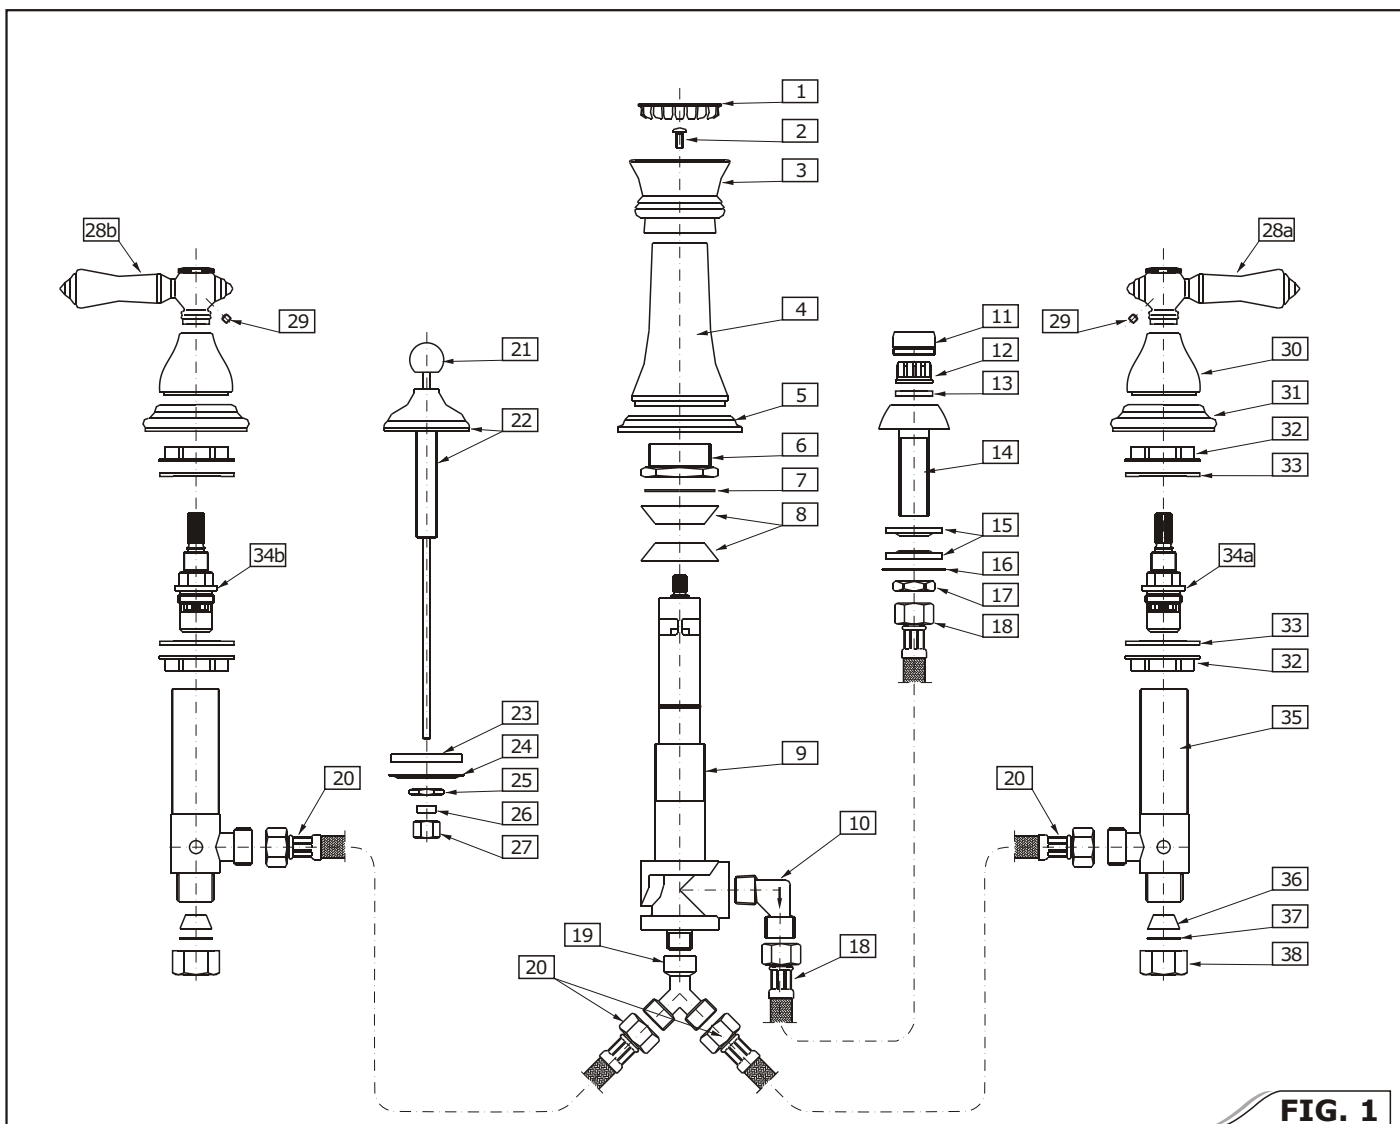

FIG. 1
- ➔ Spin the bottom valve mounting nuts (32) all the way down the valve and remove the top nut and washers. Insert valve (35) up through the hole in the deck, then drop on the washer (33) and the top mounting nut.
- ➔ Connect hose (20 fig.1) to the outlet connection of the valve. The other end of the hose should be connected to T-connection (19 fig.1) after spout installation.
- ➔ Haga girar las tuercas de montaje inferiores de la válvula (32) manteniendo la válvula abajo, luego quite la tuerca y las arandelas superiores. Inserte el válvula (35) por arriba a través del agujero en la cubierta, después ponga la arandela (33) y la tuerca de montaje superior.
- ➔ Conecte la manguera (20 fig.1) con la conexión del enchufe de la válvula. El otro extremo de la manguera se debe conectar con la conexión „T“ (19 fig.1) después de la instalación del grifo.
- ➔ Remount handle pieces: First handle base (31). Position base over side hole of mounting surface¹⁾. Second screw shroud (30) onto valve until against base. Do not overtighten.
- ➔ Insert LEFT handle (28b fig.1) on the RED marked valve and RIGHT handle (28a fig.1) on the BLUE marked valve.
- NOTE:** In case of faucet with cross handles you should turn cross handles to the left (anticlockwise). Make sure the LEFT cross handle marked (H) is on the RED marked valve and the RIGHT cross handle marked (C) is on the BLUE marked valve.
- ➔ Attach handles with hex socket screws (29). Use provided hex key.